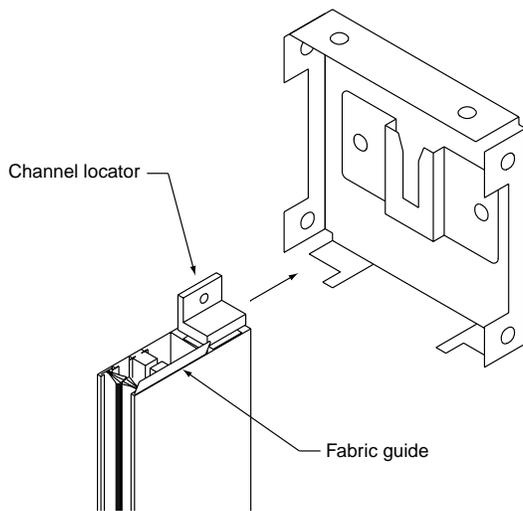

Figure 7
- ⑥ Install side channels (NOTE: Insure side channels, headbox, and sill channel are square).
A. Install channel locator and fabric retainer in the top of each side channel then slide into place (see Fig. 7).